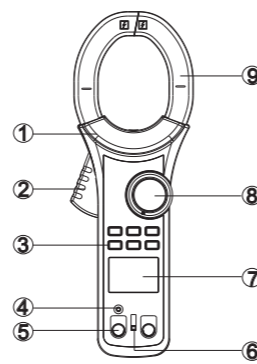

Figure 1
V. Meter Structure (See Figure 1)